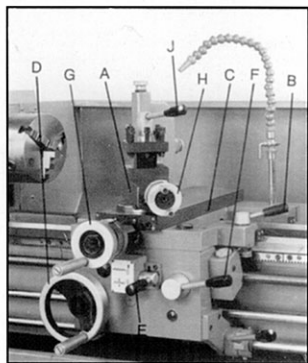

Fig.12
8. **Compound Lock**(A, Fig.12)-hex socket cap screw located on left side of compound rest. Turn clockwise to lock and counter-clockwise to unlock.
9. **Carriage Lock**(B, Fig.12)-lock handle located on top of carriage. Turn clockwise to lock. Turn counter-clockwise to unlock. **Caution:** carriage lock must be unlocked before engaging automatic feeds or damaged to lathe may occur.
10. **Cross Slide Lock**(C, Fig.12)-set screw located on right side of cross slide body. Turn clockwise and tighten to lock. Turn counter-clockwise and loosen to unlock. **Caution:** cross slide lock screw must be unlocked before engaging automatic feeds or damage to the lathe may occur.
11. **Longitudinal Traverse Hand Wheel** (D, Fig.12)-located on the apron assembly. Rotate hand wheel clockwise to move the apron assembly toward the tailstock(right). Rotate the wheel counter-clockwise to move the apron assembly toward the headstock(left).
12. **Feed Selector**(E, Fig.12)-located in the center front of the apron assembly. Push lever to the left and down activates the crossfeed function. Pull lever to the right and up activates the longitudinal function.
13. **Half Nut Engage Lever(Threading)** (F, Fig.12)-located on front of the apron. Move the lever down to engage. Move the lever up to disengage.
14. **Cross Traverse Handwheel**(G, Fig.12)- located above the apron-assembly. Clockwise rotation moves the cross slide toward the rear of the machine.
15. **Compound Rest Traverse Handwheel** (H, Fig. 12)- located on the end of the compound slide. Rotate clockwise or counter-clockwise to move or position.
16. **Tool Post Clamping Lever** (J, Fig. 12) - located on top of the toolpost. Rotate counter-clockwise to loosen and clockwise to tighten.